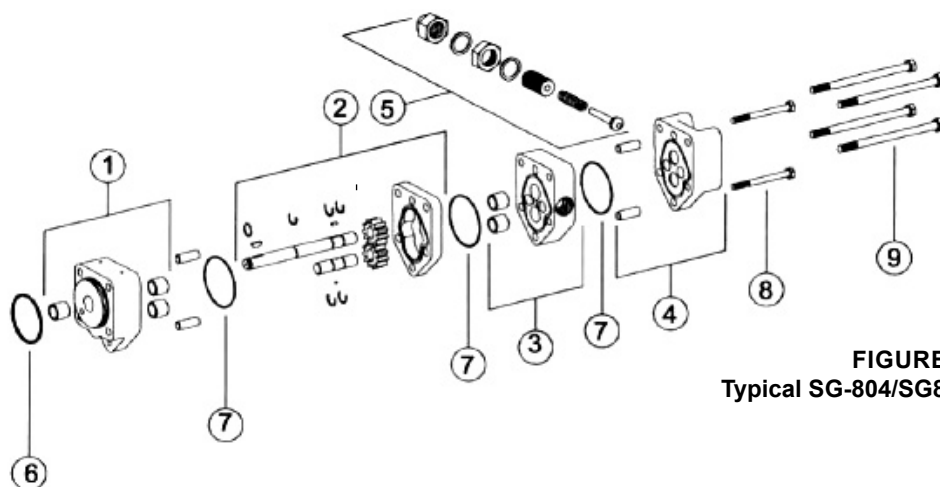
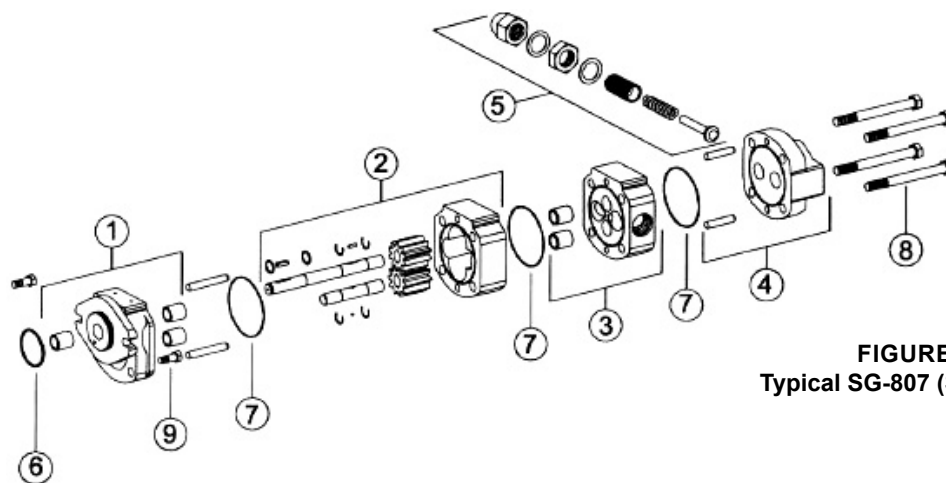

FIGURE 14
FIGURE 15
Replacement parts are only available as displayed in the table of parts (**Figure 14 & Figure 15, Table 3**). Contact your local distributor to obtain replacement parts. Be sure to supply the pump model number and serial number.
1. Remove the assembly capscrews (item 8, **Figure 14 or 15**).
4. After the casing is installed, place the driver and driven gears and shaft into the proper positions (refer to **Figure 14 & 15**) for proper positioning of driver and driven shaft assemblies.